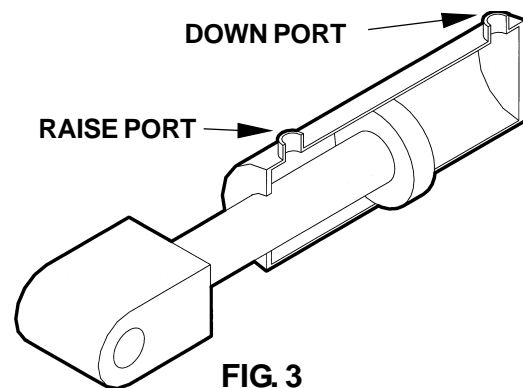

FIG. 3
3. Check the Hydraulic Cylinder. With the Platform on the ground, remove the hydraulic line from the Down Port of the Cylinder (**FIG. 3**). Raise the Platform even with the bed. Allow pump motor to run two seconds more while you watch for hydraulic fluid at the Down Port. A few drops of hydraulic fluid escaping the Down Port is normal; however, if it streams from the Down Port, Piston Seals are worn. Replace Seals.
4. Check the Hydraulic Cylinder. With the Platform on the ground, remove the Breather Plug or Vent Line from the Vent Port of the Cylinder (**FIG. 3**). Raise the Platform even with the bed. Allow pump motor to run two seconds more while you watch for hydraulic fluid at the Vent Port. A few drops of hydraulic fluid escaping the Vent Port is normal; however, if it streams from the Vent Port, Piston Seals are worn. Replace Seals.